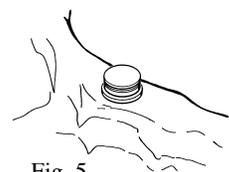

Fig. 5
3. Insert a Locator Cap with Black Processing Male (Zest order #8519 Package) into each Locator Implant Abutment, leaving the White Block-Out spacer beneath it. (Fig. 5) The Black Processing Male will maintain the overdenture in the upper limit of its vertical resiliency during the processing procedure.